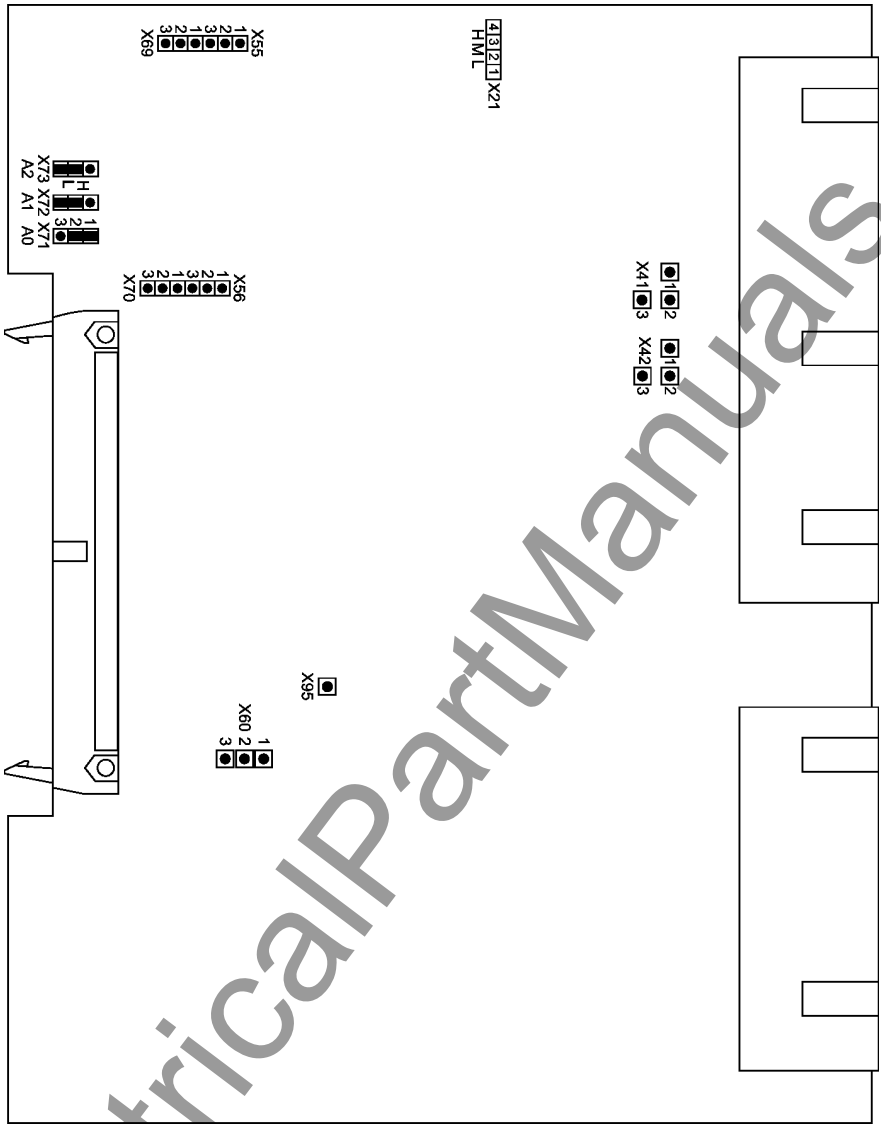

Figure 3-8 C-I/O-12 input/output board with representation of jumper settings required for checking configuration settings
**Board C-I/O-12** The PCB layout for the C-I/O-12 input/output board is shown in Figure 3-8.